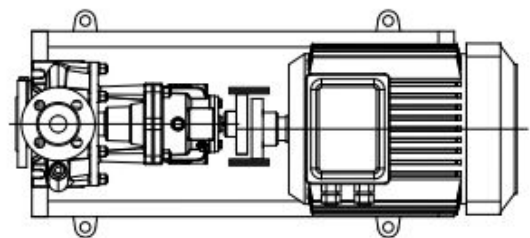

Figure 9c. Parallel sliding error in horizontal plane and adjustment.
- In order to control the parallelism mistake, a gauge with straight edge is pressed on a part of the coupling in parallel to the axis and the position of the gauge related to other part is observed. The gauge should contact with both two parts simultaneously and along its entire edge. This process should be performed at two opposite places on the horizontal and vertical plane (Figure 9c, 9d).